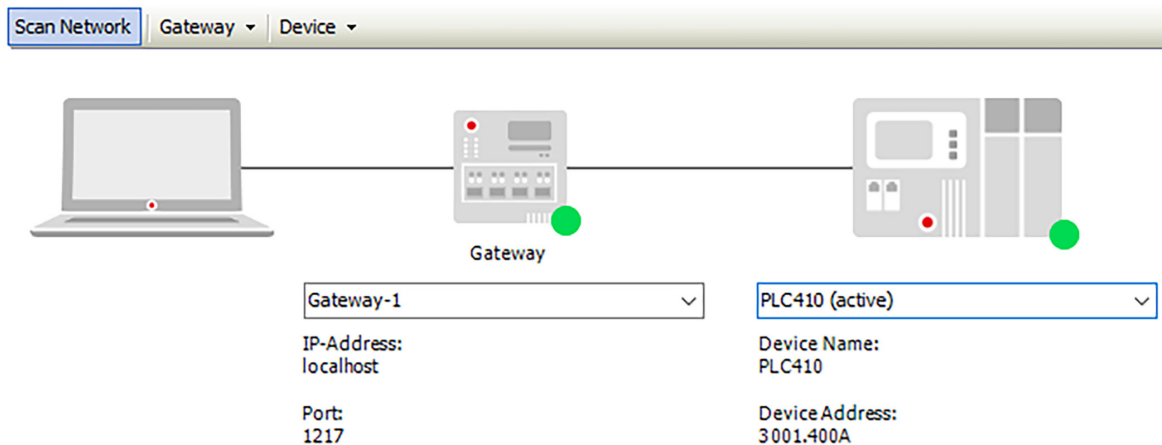

Figure 14.3: Device ready for programming
- 6) The device will be ready for programming when PLC410 (active) shows along with a green sign just above the device name, as in Figure 14.3 on page 14-3.